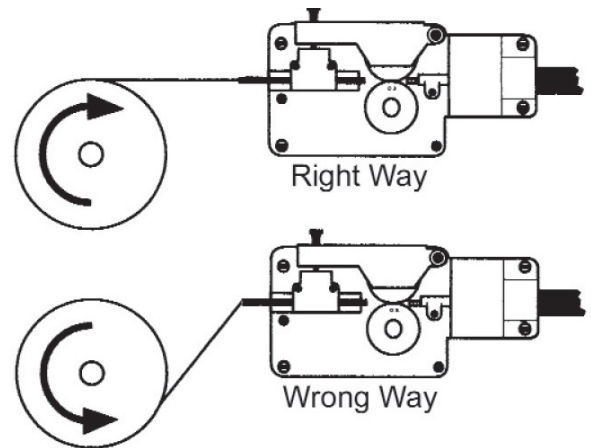

Figure 5. Wire Installation
- Place the spool on the spindle in such a manner that when the wire comes off the spool, it will look like the top illustration in Figure 5. The welding wire should always come off the top of the spool into the drive mechanism.